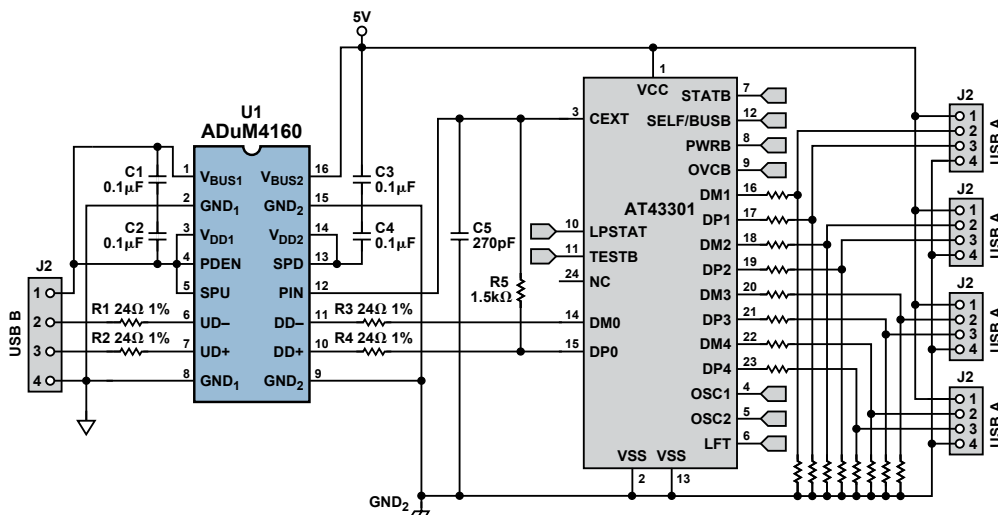

Figure 8. Isolated hub.
- It can be used to isolate a hub and therefore all of the peripherals downstream of the hub (Figure 8).
Used as a hub isolator (Figure 8), the ADuM4160 treats the hub as its peripheral. The ADuM4160 is set to full speed; the rest of the application is similar to the standard peripheral case discussed above. The hub will be forced to operate at full speed by the isolator's intervention in its chirp function. The hub IC will allow connection to combinations of low- and full-speed devices, even though the isolator runs at a fixed speed. The hub provides power to the isolator's downstream port, and enumeration can begin either at power-up or on a delayed basis. The hub usually requires more power than can be supplied by the upstream cable via an isolated dc-to-dc converter.